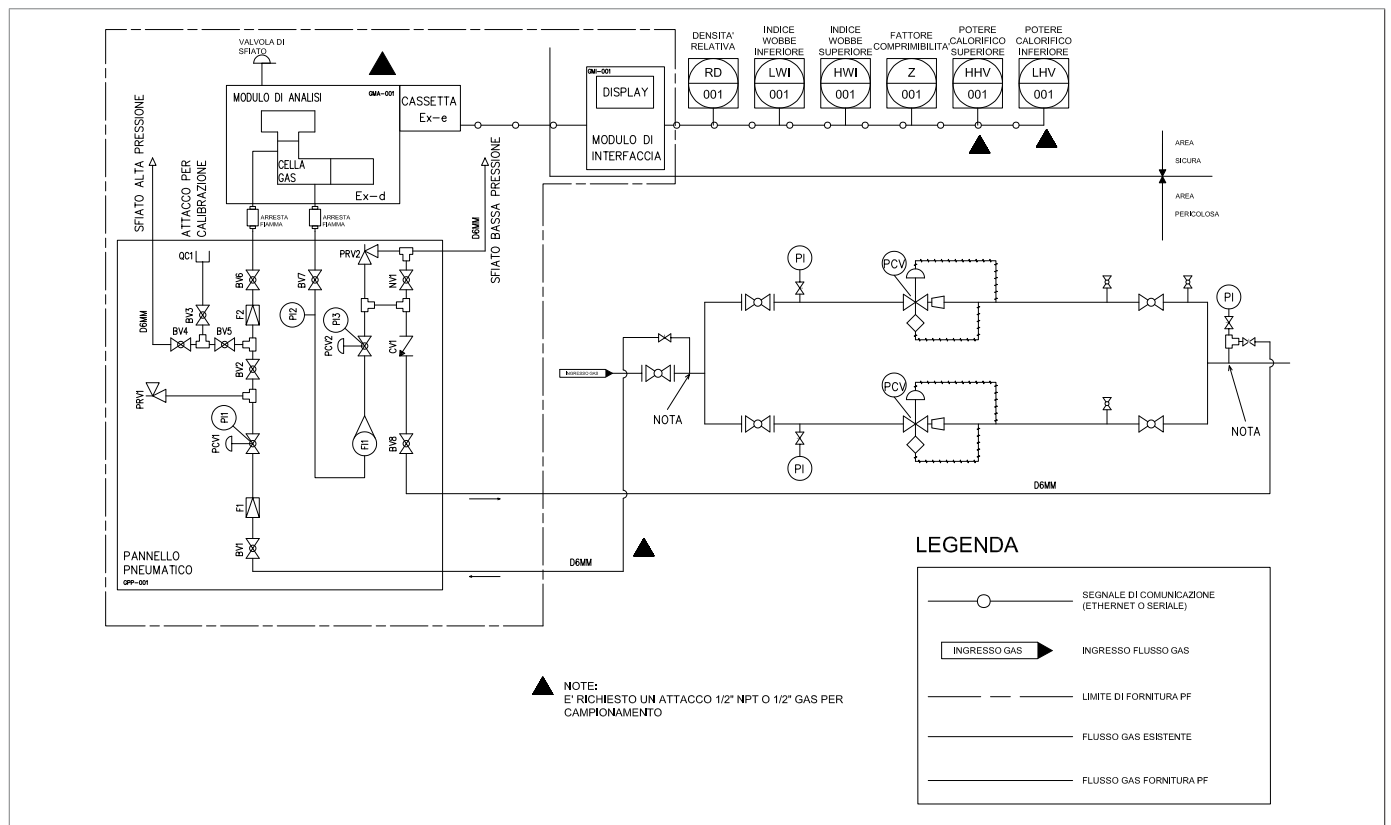
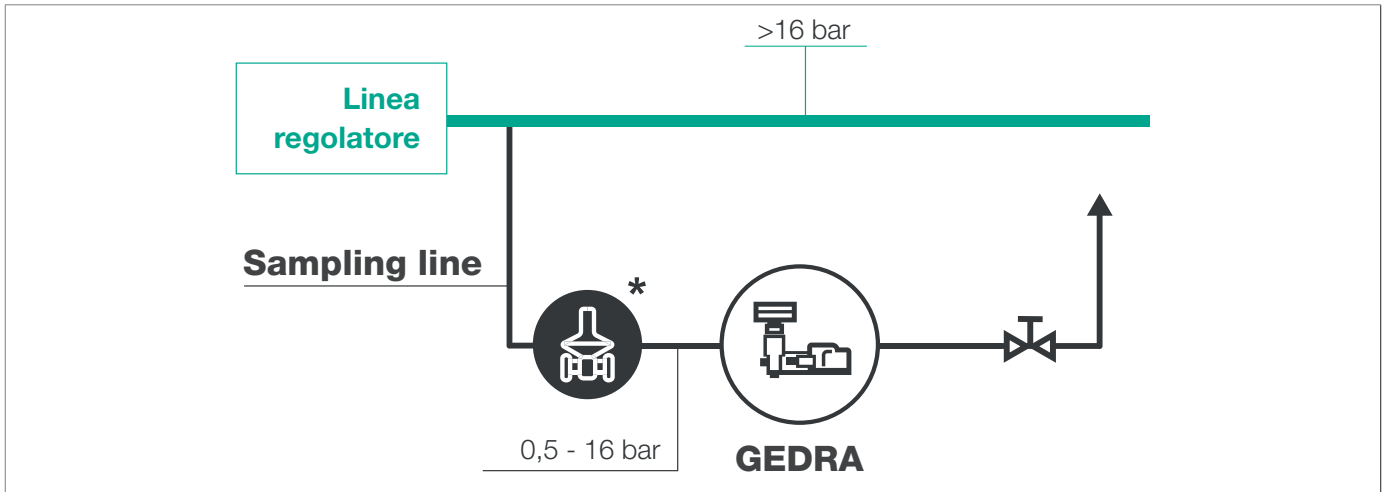
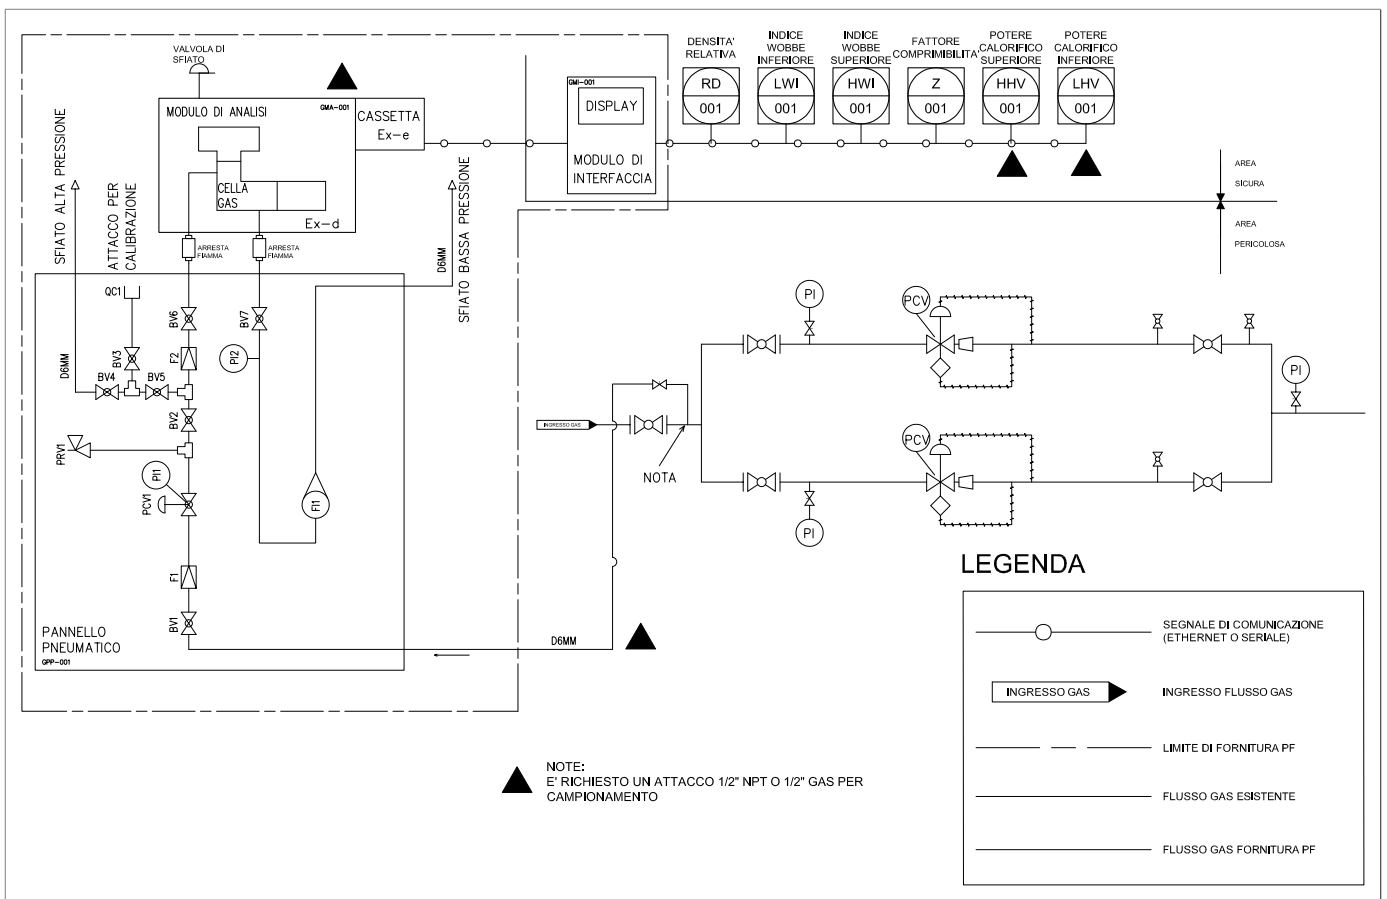

Fig. 7.34. Type 1 P&ID configuration of the acquisition module
Fig. 7.35. Type 2 configuration of the acquisition module
Fig. 7.36. Type 2 P&ID configuration of the acquisition module
Fig. 7.34 and Fig. 7.36 show the possible installation diagrams in hazardous areas for the acquisition module.
- a re-injection point (placed downstream of the adjustment section and before the measurement section, so as not to bypass the cabin measurement), in the event of absence of adjustment the emission into the atmosphere will be carried out (configuration type 2, Fig. 7.35 and Fig. 7.36)